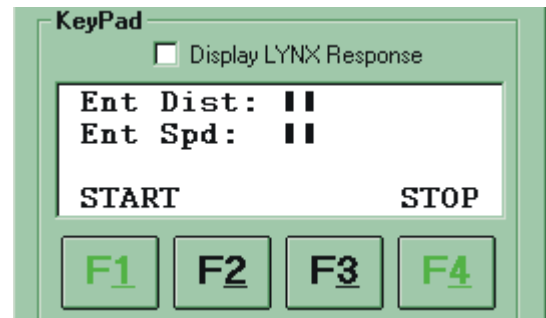

Figure 4.13: Screen 2 Setup
- 2] Enter the text into the display window as shown in figure 4.13.